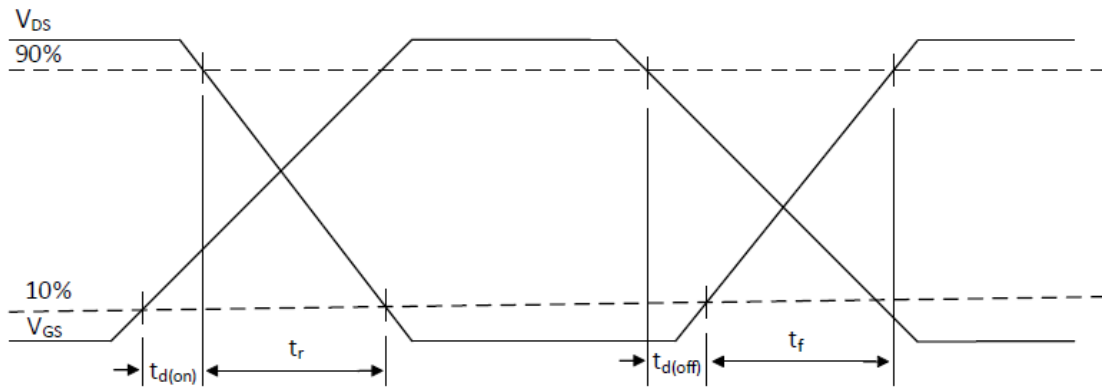

Figure 17: Switching Time Waveforms
(6) See Figure 17 for switching time definition waveforms.